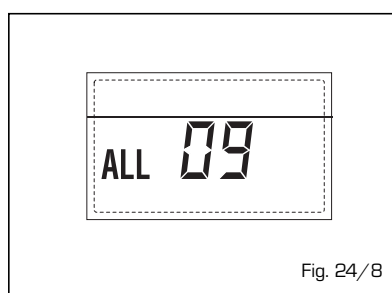

Fig. 24/8
- ANOMALÍA SONDA AUXILIAR "ALL 10" (fig. 24/9)